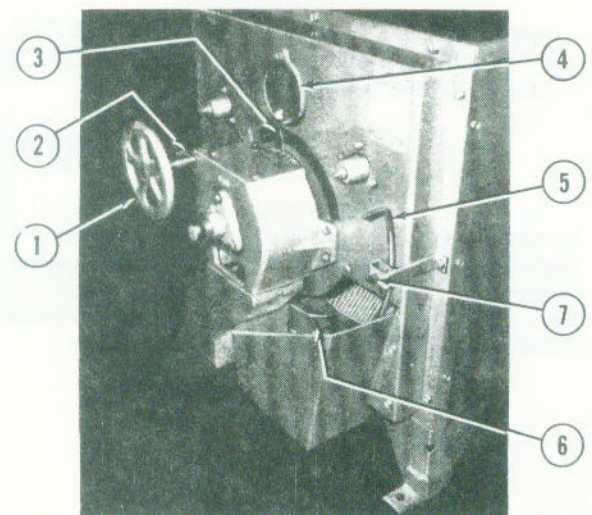

FIGURE 2 – Operating Controls
The retarder (6, Figure 2) dams up product at the discharge end of the cylinder until a wall is built up of product (C) for the entire length of the cylinder.
TROUGH CONTROL – Handwheel (1, Figure 2) is moved clockwise to lower the separating edge of the trough and counterclockwise to raise the edge. Position of trough is locked with Lockscrew (2, Figure 2). As a further aid to the location of the separating edge, pointer (3, Figure 2) is aligned with the edge and increments on decal can be used to record changes in settings.
INSPECTION PORT – Inspection Cover (4, Figure 2) can be pivoted to observe the position of the trough and separating action during operation.
RETARDER CONTROL – Retarder control rod (5, Figure 2) adjusts the position of the retarder (6, Figure 2) and is locked into position with wing nut and eye bolt (7, Figure 2). An increasing amount of product is held in the cylinder as the retarder is raised. When retarder is fully lowered, it is in the cleanout position and allows product to flow freely out of the cylinder.